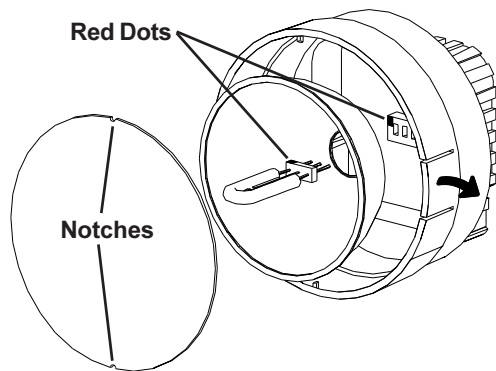

Figure 4 Lamp Replacement
- The lamps are polarized and must be put into the socket matching polarity. **Using a lint free cloth, match up the red dot on the plug with the red dot on the socket** and gently rock the lamp while pushing it into place (see Figure 4). Make sure the lamp is in straight and centered in the reflector hole.
4. Reinstall the reflector and then position the front lens in place matching up the notches on the lens with the two small tabs on the housing to prevent lens rotation (see Figure 4). Push the tabs on the front rim outward and press the lens into place.